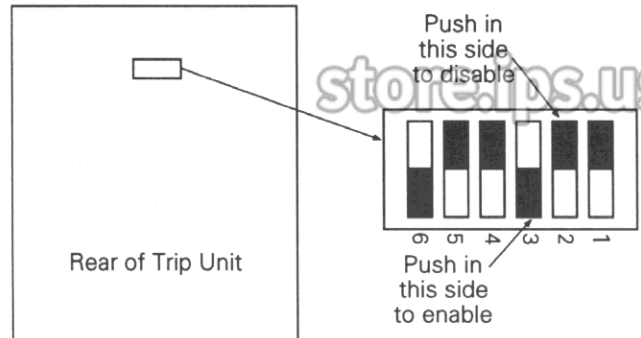

Figure 5. Accessory switch on rear of Trip Unit, showing factory settings (solid part indicates that switch is pushed in on that side).
This section applies only if Shunt Trip or Undervoltage Release accessories are installed in the breaker. The Bell Alarm with Lockout accessory can be configured to activate if a Shunt Trip or Undervoltage Release trip occurs. The configuration can be changed by removing the Trip Unit from the breaker, setting the DIP switches on the rear of the Trip Unit, and reinstalling the Trip Unit. Figure 5 illustrates the Trip Unit rear DIP switches. Table 2 lists the switch functions and the factory settings for each.
4. Refer to Figure 5 and Table 2 to determine the switches to be changed.